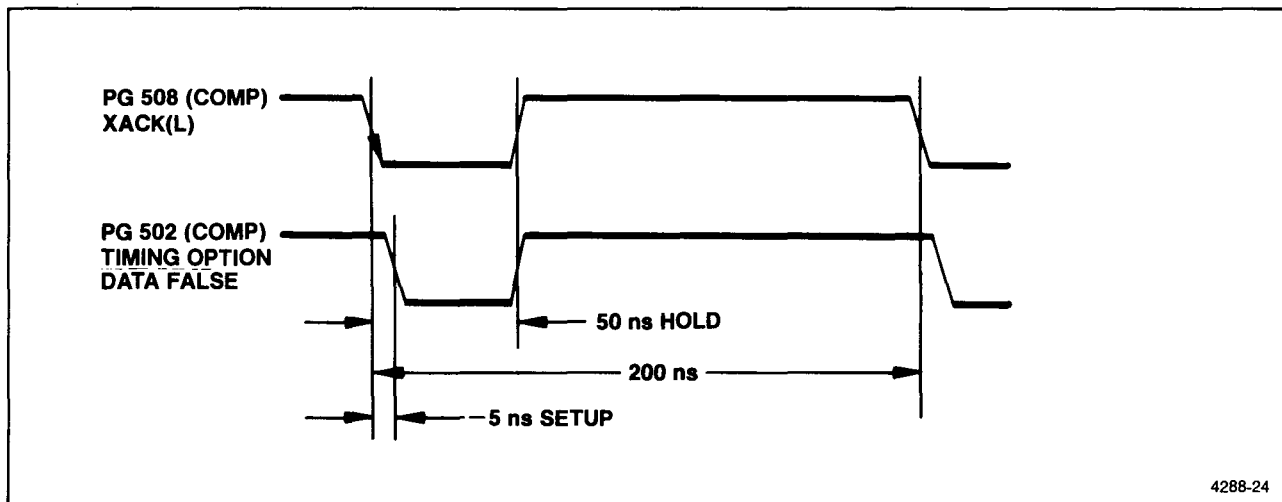

Figure 5-17. Timing Option Data (FALSE) setup and hold time.
18. Press the PG 502 COMPLEMENT button (in). Verify that the data pulse out of the PG 502 starts 5 ns after the falling edge of XACK(L) (from the PG 508), and ends 50 ns after the falling edge of XACK(L). Refer to Figure 5-17.